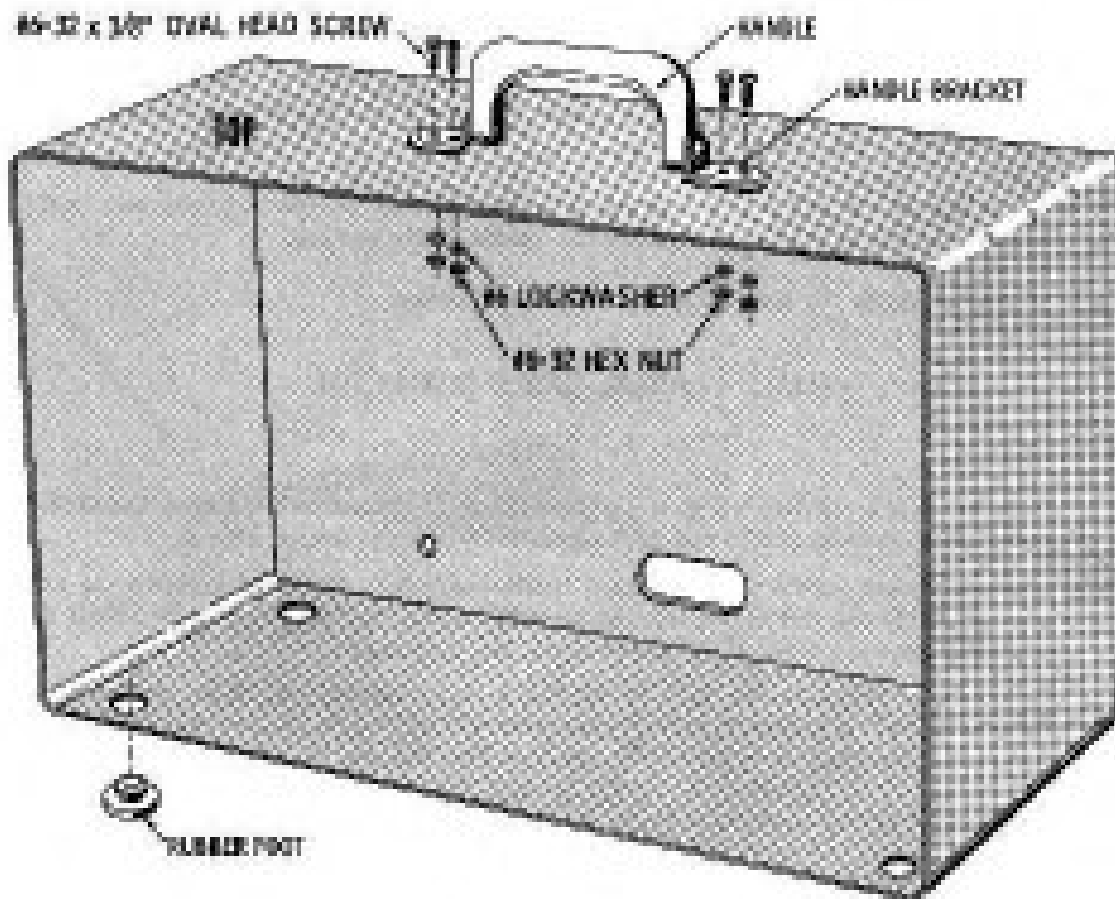

FIGURE 17
- () 152. Install the handle hinges and handle on top of the carrying case. The handle hinges mount over the holes provided on top of the case with two #8-32 x $3/8"$ oval head screws, two #8 lockwashers, and two #8-32 hex nuts for each hinge. See Figure 17. To perform this assembly, first mount one of the hinges, then place one end of the handle on the mounted hinge. Next insert the other hinge into the hole at the other end of the handle, and mount this hinge to the carrying case.